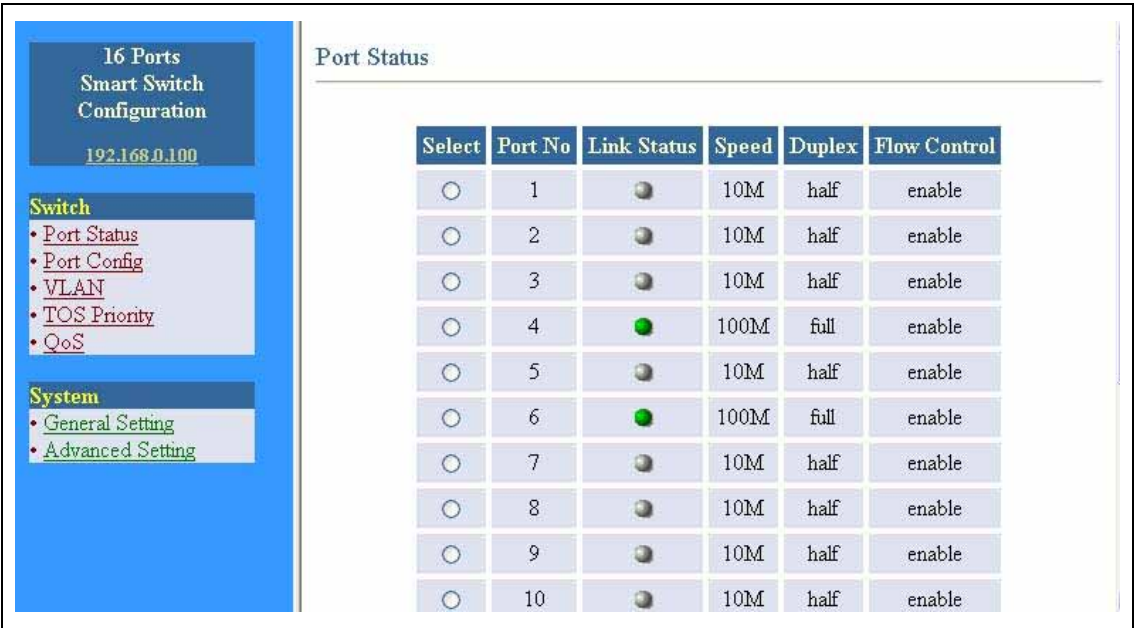

Fig 5-2
2. After login, the Smart Switch Configuration page will come up. (Fig 5-2)